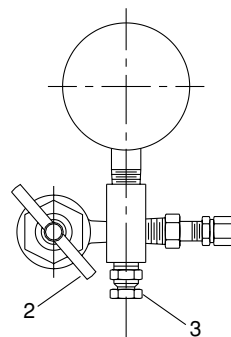

Figure 4
- (A) Remove protective cover (A) and the secondary seal (B) from the Diaphragm accumulator. Check torque on the gas valve to be 9 ft-lbs (10.3 cm kg).
- (B) Refer to Figure 4. Back gas chuck “T” handle (2) all the way out (counter clockwise), attach charging and gauging head assembly by screwing the air chuck (2) to the valve stem of the Diaphragm accumulator and tighten (10-15 in lbs) (11.5-17 cm kg).
- (C) Close bleed valve (3).
- (D) Turn “T” handle (2) in clockwise motion.
- (E) When finished checking the precharge, turn “T” handle (2) counterclockwise all the way, then open bleed valve (3).
- (F) Using a wrench to prevent the gas valve assembly from rotating, remove the charging assembly from the accumulator.
- (G) Replace secondary seal (B) and protective cap (A).
**For accumulators having gas valve as shown in Figure 6,** attach gauging assembly as shown in Figure 4 following Steps A through D. Then, open bleed valve (3) until all gas pre-charge is relieved from accumulator. Then remove gauging assembly. The accumulator is now safe to remove from the system.